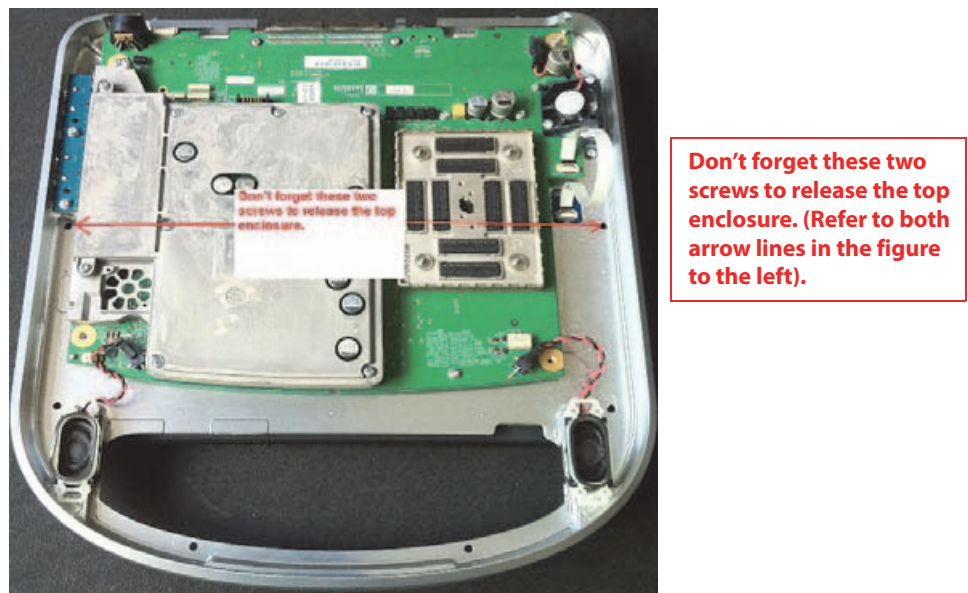

Figure 6.2 Main Frame Bottom
- 3 After removing the EDGE Bottom Enclosure, remove the two screws located in Figure 6.2.
- 10 Install the two screws removed from Figure 6.2. Torque the screws to 5.5-inch pounds.
- 3 Remove the 2 screws in the EDGE Main Frame securing the Top Enclosure per Figure 6.2.
- 8 Install the 2 screws in the EDGE Main Frame securing the Top Enclosure per Figure 6.2. Torque the screws to 5.5-inch pounds.